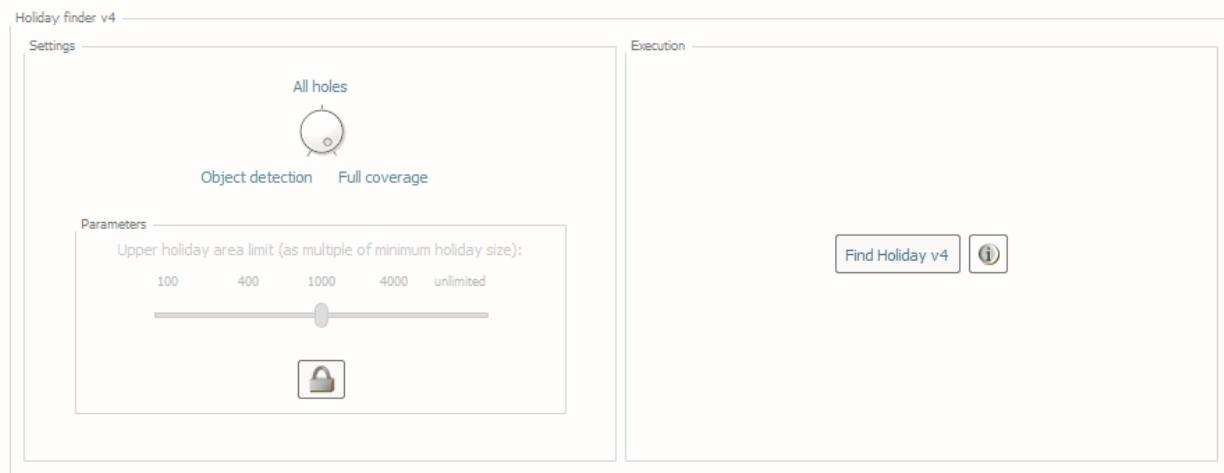

Fig. 2.19: The **Holiday Finder** tab.
- Select the **Holiday Finder** tab (Fig. 2.19) on the bottom of the QC Tools interface.